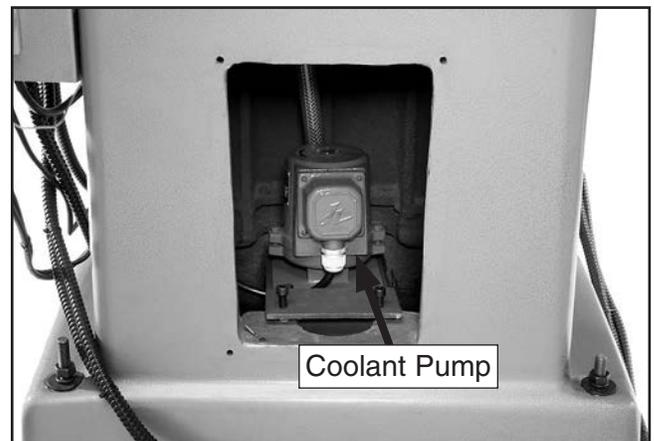

Figure 68. Coolant reservoir access panel removed.
2. Remove coolant reservoir access panel on rear of the column, as shown in **Figure 68**.